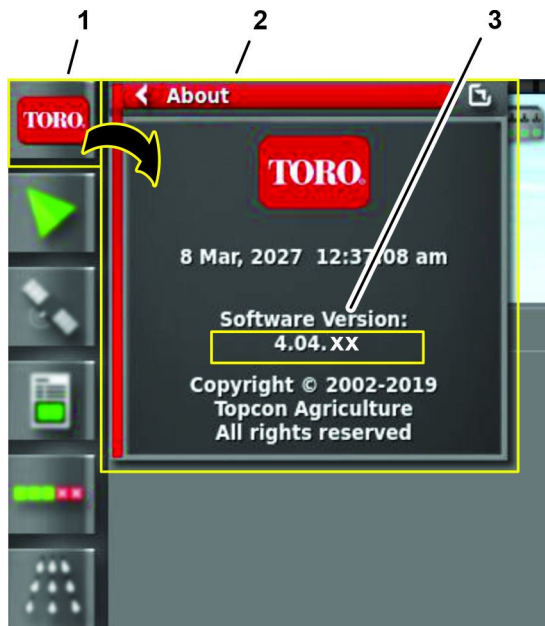

Figure 194
2. Press the ABOUT (Toro) icon at the upper left corner of the control console (Figure 194).